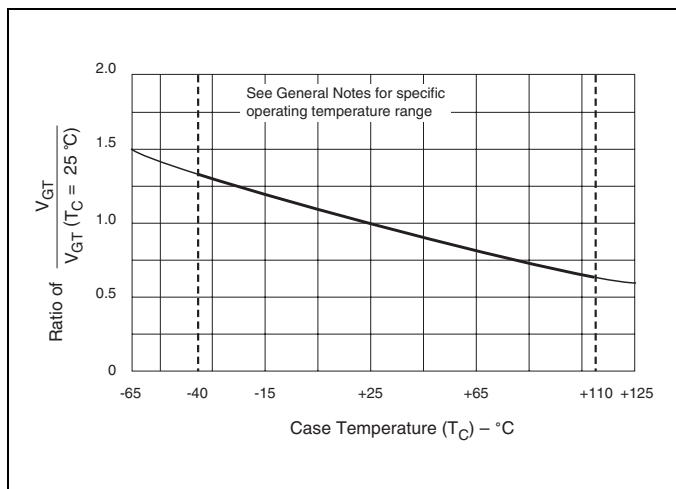

Figure E5.12 Normalized DC Gate-Trigger Voltage versus Case Temperature
- See Figure E5.12 for V_{GT} versus T_C or T_L.